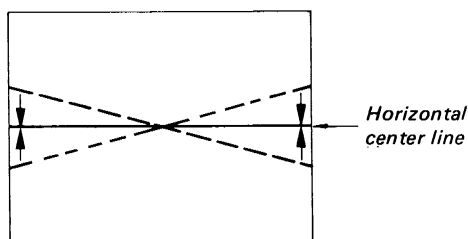

Fig. 3-6
- (1) Cover the red and blue lenses with caps equivalents.
- (2) Adjust RV5542 (H CENT (G)) and RV5540 (V CENT (G)) to center the picture.
- (3) Rotate the green deflection yoke to make the horizontal center line of cross-hatch pattern horizontal as shown in Fig. 3-6.